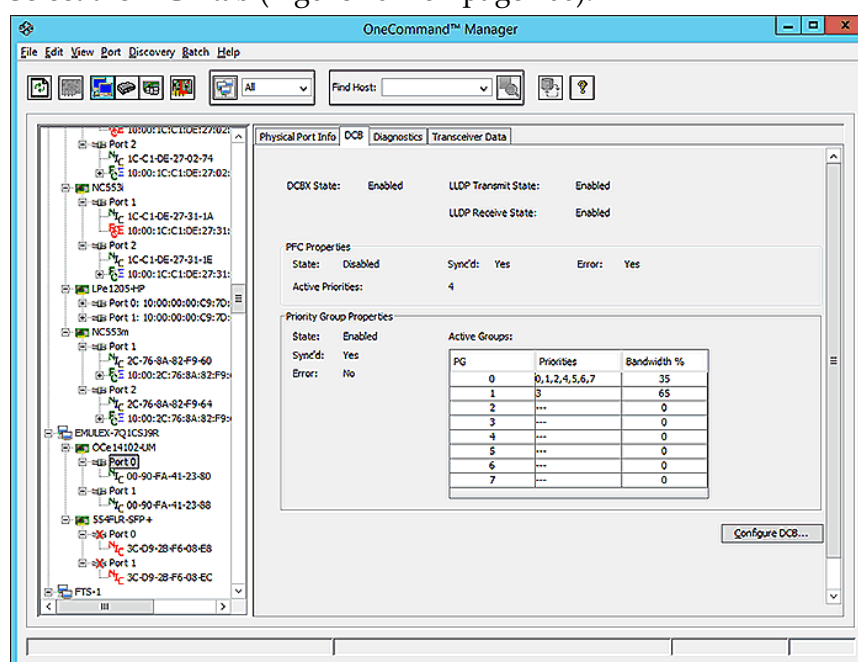

Figure 10-1 DCB Tab for NIC Only Adapter Ports (NIC Only adapter port selected)
The DCB tab (Figure 10-1 on page 206) displays parameters for NIC-only adapter ports. To view the DCB parameters for NIC-only adapter ports:
2. Select the **DCB** tab (Figure 10-1 on page 206).